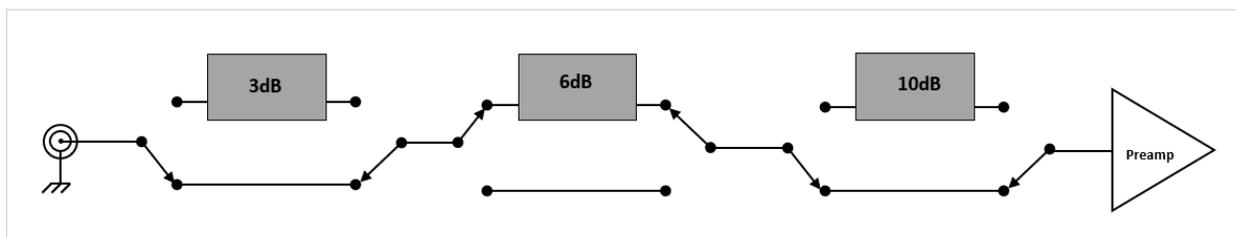
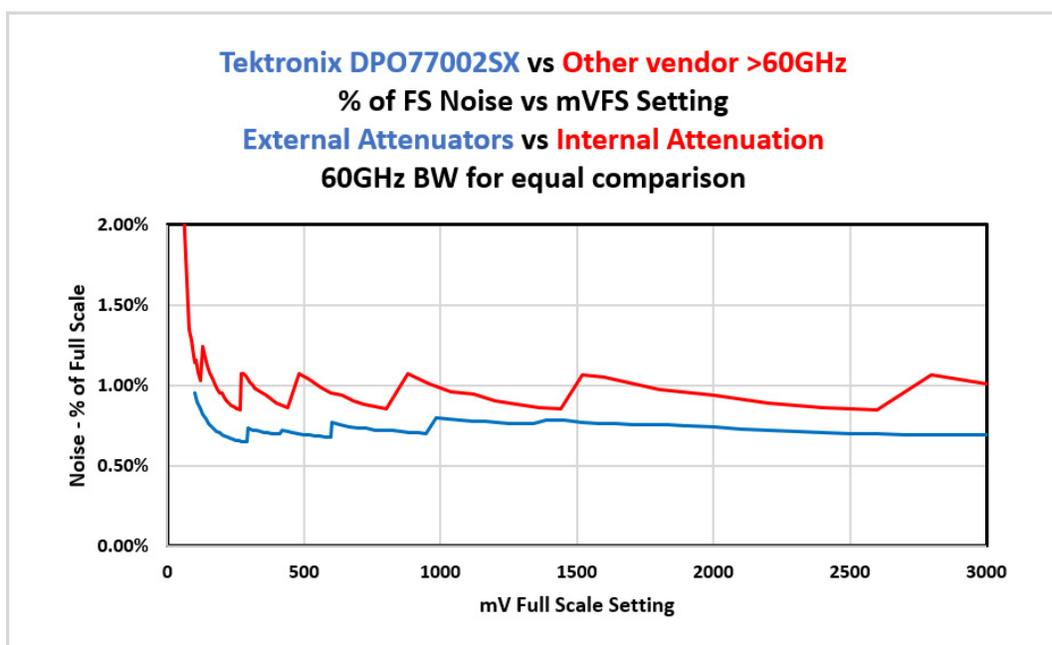

Figure 1 - Three stage internal attenuator switch matrix.
Figure 3 - Noise as a percent of full-scale voltage range on Tektronix DPO77002SX versus other vendor's >60 GHz Oscilloscope
Traditional oscilloscope channels use an internal switchable attenuator matrix to support various V/div settings. Attenuator values are controlled via switching relays based on various V/div settings from the user through front panel controls, GUI changes, or programmatic interface (PI). Different value attenuators are switched into the acquisition path depending on the vertical scale. Implementations may have 1 up to N stages depending on pre-amp gain input range and desired attenuation steps. TekConnect inputs on DPO70000SX oscilloscopes implement a 1-stage variable attenuator. For illustration purposes a three-stage example is shown in **Figure 1**.
**ATI channels:** Mechanical or electronic attenuators can degrade over time. They also increase repair time and cost since components need to be integrated onto the acquisition board. External attenuators can be chosen, installed, and swapped out for a fraction of the cost with little down time. The user can match the attenuator value selected to the application, signal characteristics, and test pattern to optimize V/div scaling vs noise as shown in **Figure 3** below. If an attenuator is damaged or wears out it can be replaced without removing instruments from the test environment.
**Figure 3** shows a plot of noise measured across voltage FULL-SCALE SETTING range. One oscilloscope using external attenuators is shown in blue, compared to another oscilloscope using internal six-stage switchable attenuation shown in red. Notice the peaks in each noise curve. These peaks indicate where an attenuator value is changed. For the red curve, internal switches change the signal path thru attenuators, as shown in **Figure 1**. For the blue curve, external attenuators are changed by hand on the front of the scope channel. In each case, peaks are evident when attenuator value is changed. However, these peaks are lessened on the blue curve for external attenuator case, resulting in less vertical noise. Further, you will notice the natural shape of the amplifier relative to each inflection where a different attenuation value was set. A flatter curve is better, resulting in higher fidelity across the voltage range with less noise.